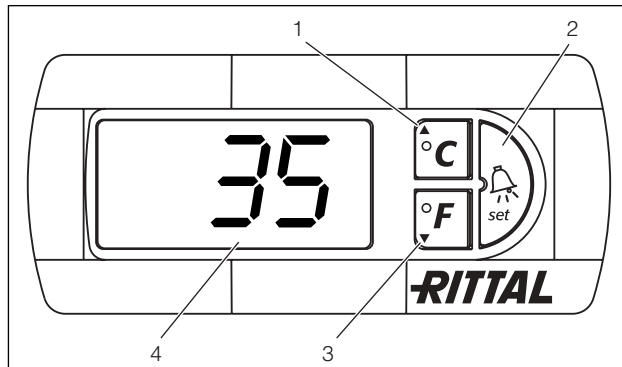

Fig. 28: Comfort controller
The Comfort controller has a 7-segment display (Fig. 28, no. 4). After switching on the power supply, the current software version is initially displayed for approximately 2 sec., followed by a preset option (e.g. t10) or the temperature.
In regular operation, the display shows both the temperature (in degrees Celsius or Fahrenheit – users may switch between the two) and any error messages. The current enclosure internal temperature is usually displayed permanently. In the event of an error message, this will alternate with the temperature display. The unit is programmed using buttons 1 – 3 (Fig. 28). The relevant parameters also appear in the display.
- Simultaneously press buttons 1 and 2 (Fig. 28) for at least 5 sec.
Using buttons 1, 2 and 3 (Fig. 28) you can change 24 parameters within the preset ranges (min. value – max. value).